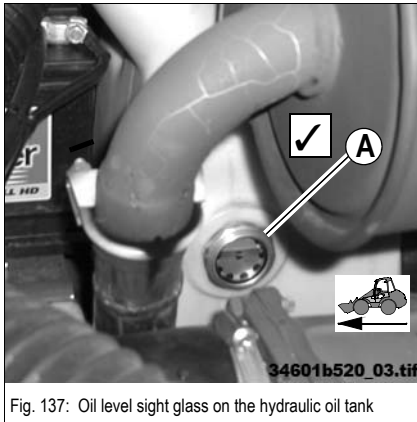

Fig. 137: Oil level sight glass on the hydraulic oil tank
- Check the hydraulic oil level in the oil level sight glass (fig. 137/**A**).